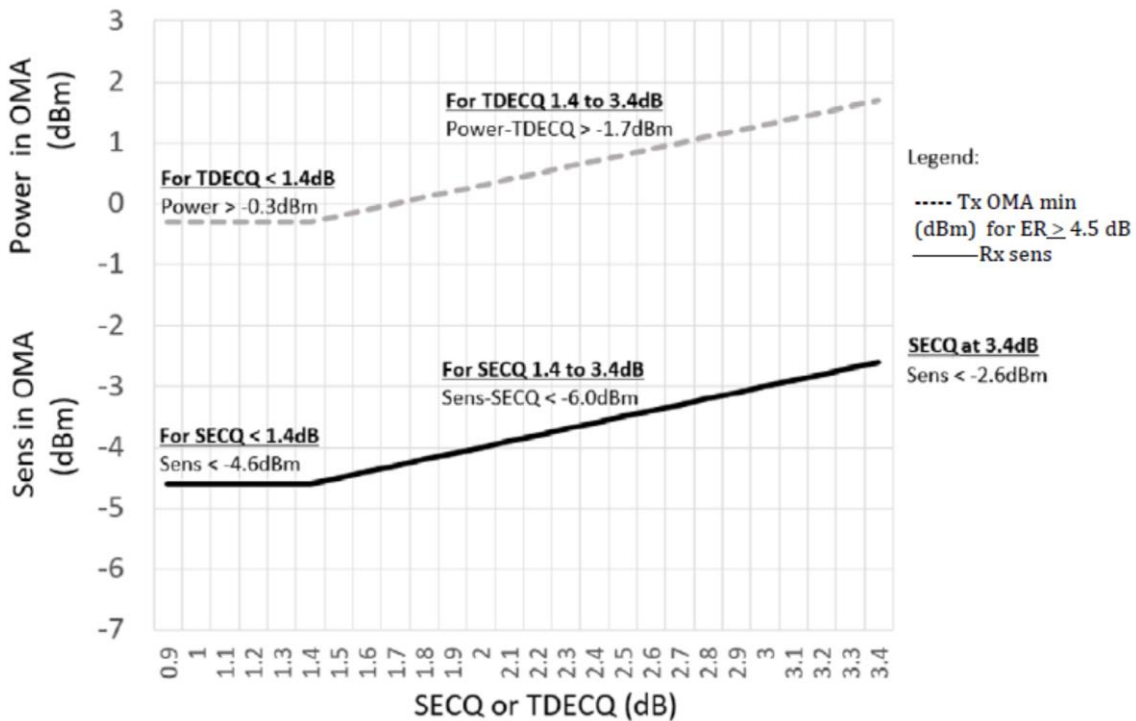

Figure 4. Illustration of Receiver Sensitivity Mask for 400G-FR4
6. Receiver sensitivity (OMA_{outer}) is informative and is defined for a transmitter with a value of SECQ up to 3.4 dB. Receiver sensitivity should meet Equation (1), which is illustrated in Figure 4.